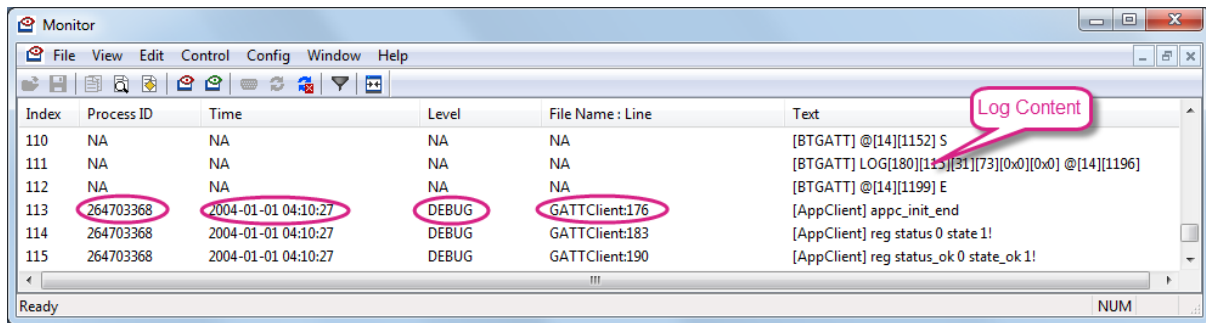

Figure 35 Hardware Connection Log
- 4) The log appears once the connection to the development board is established, you will see the log time, log level, file name and log content, as shown in Figure 35 .